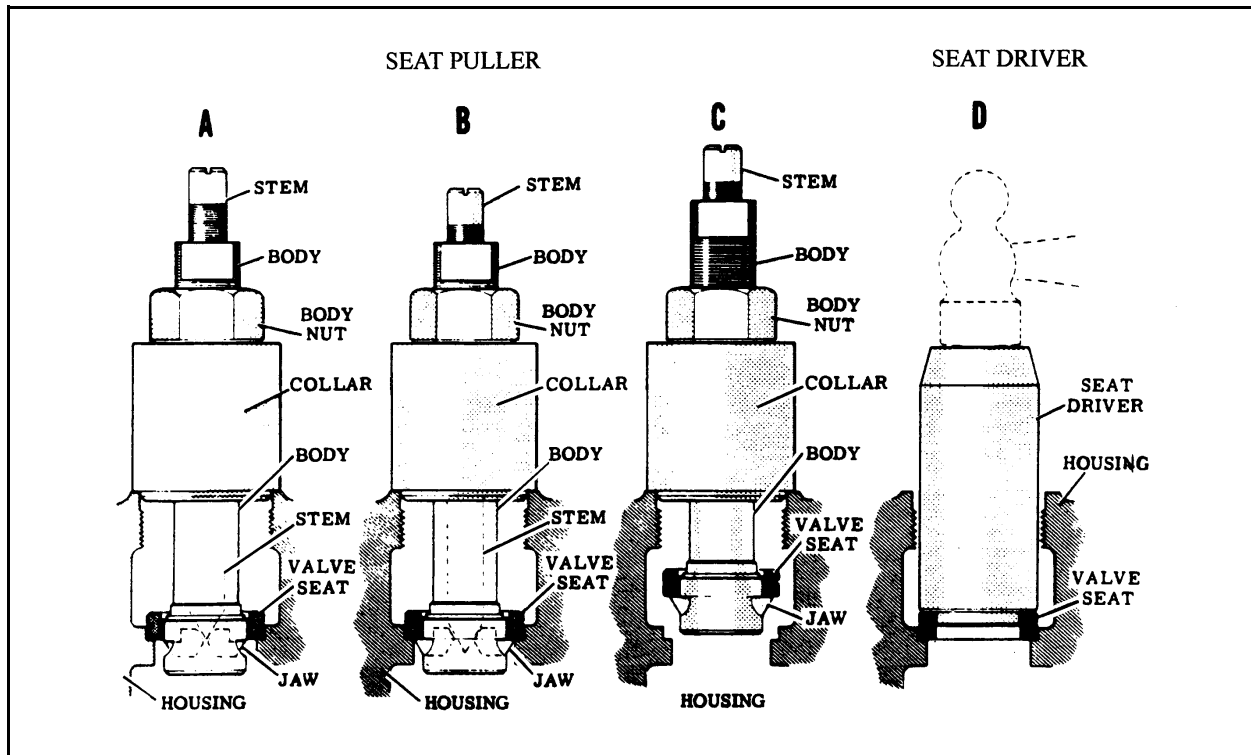

Figure 7-2 Use of seat puller and seat driver
(See Figure 7-2.)
- a. Start Plant without Burner operation and slowly close Coil Feed Valve (B, Figure 7-2) until Relief Valve just begins to discharge and check pressure on Feed Pressure Gauge at that point.
- b. To raise pressure adjustment, turn Adjusting Screw (1) clockwise; to lower pressure adjustment, turn Screw counterclockwise. Secure Adjusting Screw with Lock Nut (2) after adjustment.